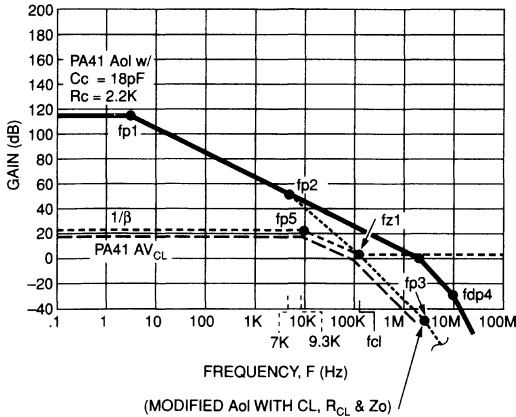
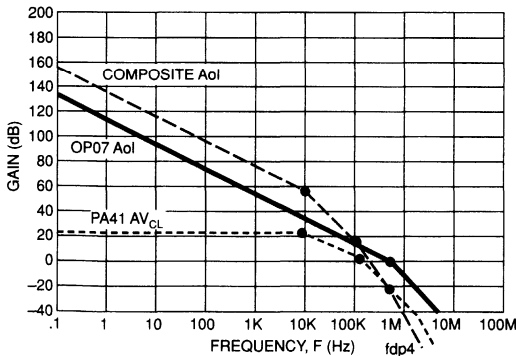
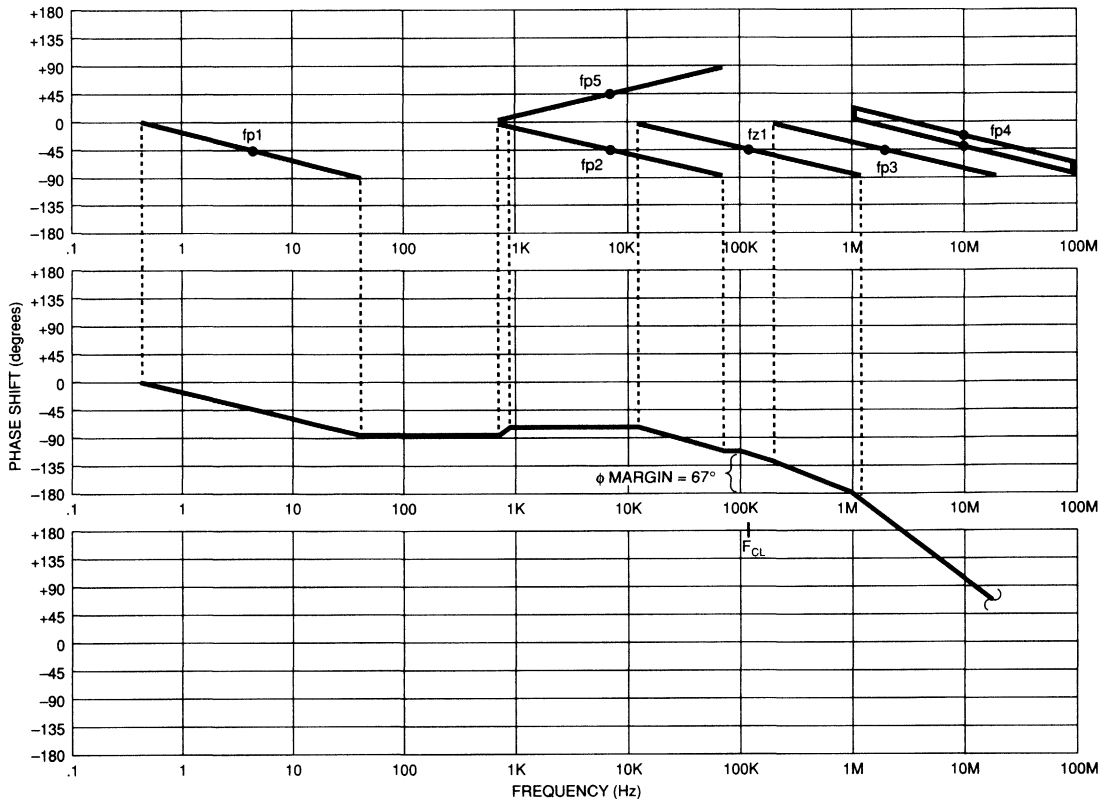

FIGURE 34. POWER OP AMP MAGNITUDE PLOT FOR STABILITY
FIGURE 36. COMPOSITE AMPLIFIER Aol MAGNITUDE PLOT
FIGURE 35. POWER OP AMP OPEN LOOP PHASE PLOT FOR STABILITY
$fp3$ and $fdp4$ in the modified PA41 Aol are contributions from the original PA41 Aol curve. Refer to Figure 34.
STEP 7: Compensate PA41 booster for stability with capacitive load. If the booster stage is not locally stable, we have no chance at stabilizing the entire composite amplifier loop. We will add a feedback zero at 9.3 kHz. This will also add a zero in the $1/\beta$ plot at $fz1$. Refer to Figure 34. Now plot the open loop phase plot of the booster amplifier as shown in Figure 35 (see following page). We see 67 degrees of phase margin for the booster amplifier loop.
STEP 8: Create new Composite Aol from OP07 Aol and PA41 AV_{CL} . Remember that if we add log functions it is the same as multiplying gains. If we add the OP07 Aol plot to the PA41 AV_{CL} plot from Figure 34, we obtain the Composite Aol plot as shown in Figure 36.